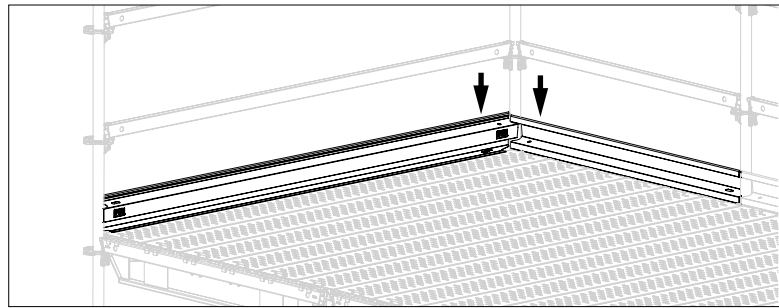

Fig. A2.18b
5. Lower both Toeboards UPY at the same time. (Fig. A2.18b)